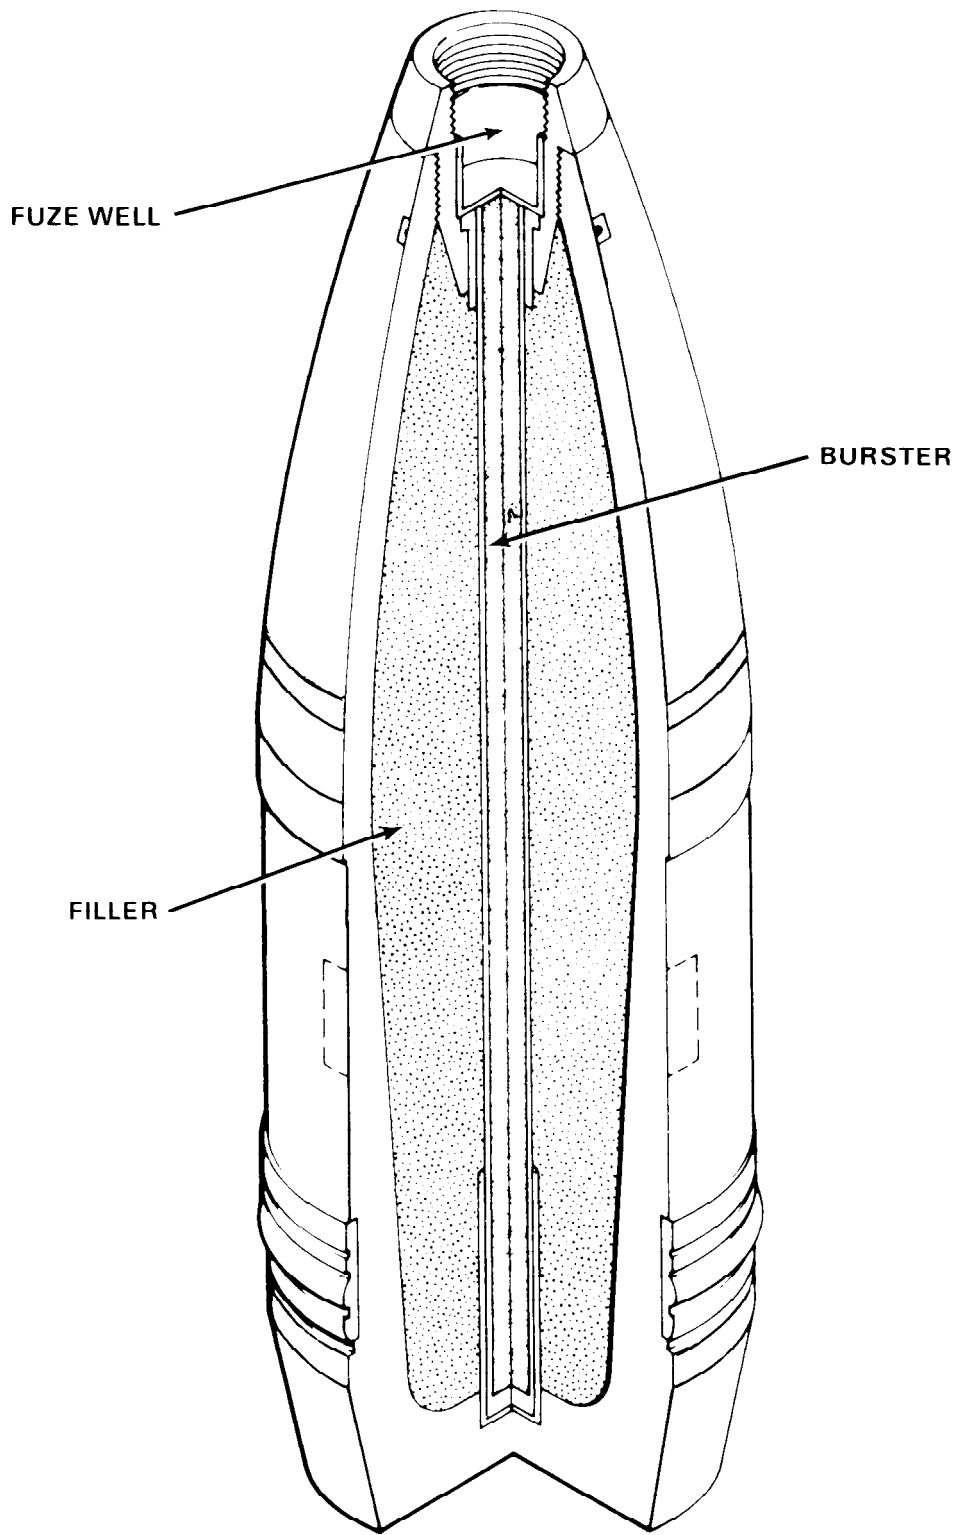

Figure 8-4.1. M104 HD 155mm Persistent Gas Projectile
8-4.1.2. Description. The M104 projectile, Figure 8-4.1, consists of a forged steel body containing a filler of 11.70 pounds of distilled mustard gas (HD) and a M6 burster. The burster consists of 0.83 pound of tetrytol in a thin steel or aluminum tube. The tetrytol filled tube is housed in the M1 burster casing which extends the full length of the projectile. The burster casing is assembled after the projectile cavity is filled with the HD agent. A threaded adapter, press fitted to the forward end of the burster casing, seals the nose end of the projectile. The projectile is issued unfuzed, with an eyebolt lifting plug threaded in the fuze adapter. A PD fuze is normally used with this projectile. A rotating band encircles the projectile body near the base and is protected by a grommet which is removed before loading the projectile in the weapon.